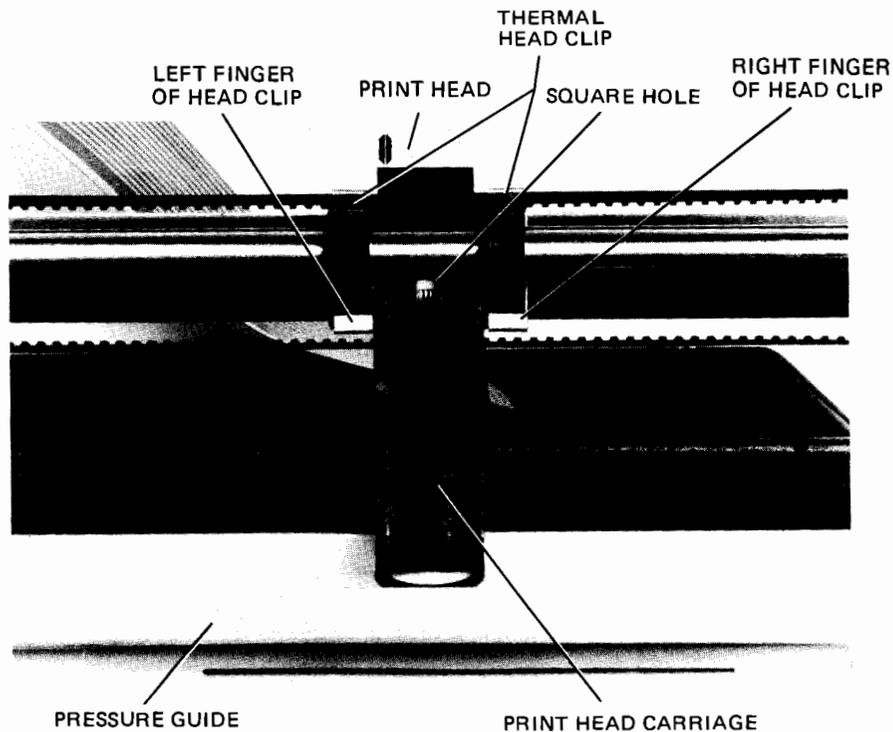

Figure 7-13B. TPM Front View
4. Slide print head carriage down to the middle of the TPM. (See figure 7-13B).
5. Loosen right and left fingers of the thermal head clip which secures the print head in place. (See figure 7-13B.)
1. Put the TPM on the edge of a table top with the pressure guide and print head carriage facing you. The pressure guide needs to hang over the edge of the table. (See figure 7-13B.)
3. Slide the print head up the print head carriage between the print head carriage and the thermal head clip. (See figure 7-13B.) Do not bend flex cable where it connects to the print head because the wires will break.
5. Look through the square hole of the print head carriage. Be sure that print head ceramic is seen in half of the square hole, and that flex cable is seen in the other half of the square hole. (See figure 7-13B.)
6. Latch the left and right fingers of the thermal head clip. (See figure 7-13B.)